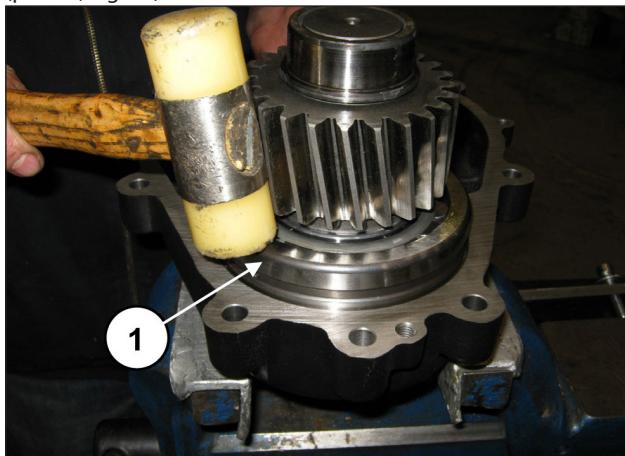

Fig. 87
Insert the pinion pre-assembled inside its housing in the reduction gear cover, with the aid of an extractor hammer (pos. ①, Fig. 87).